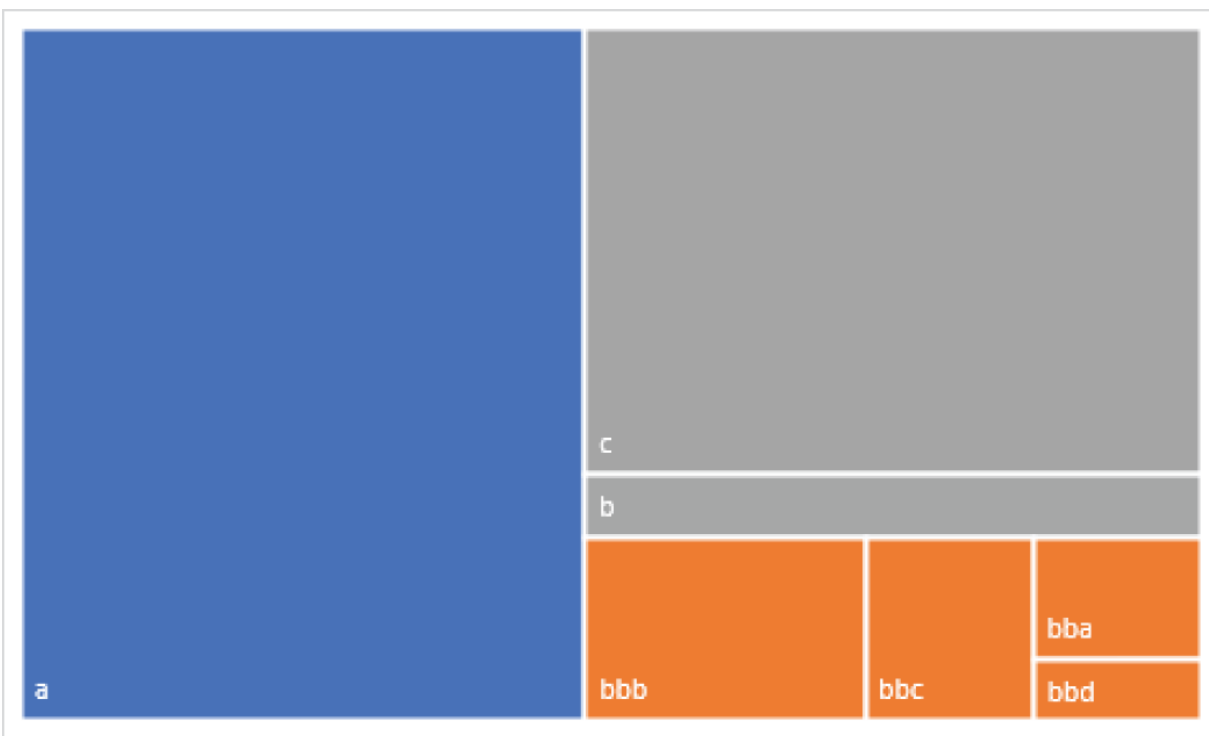

Figure 8.30: Displaying labels with the Banner option
- **Banner:** The parent data point label is shown in its own box that spans the child data point boxes, like a banner. The treemap in Figure 8.30 shows the “b” data point label in its own banner box above its children data points.